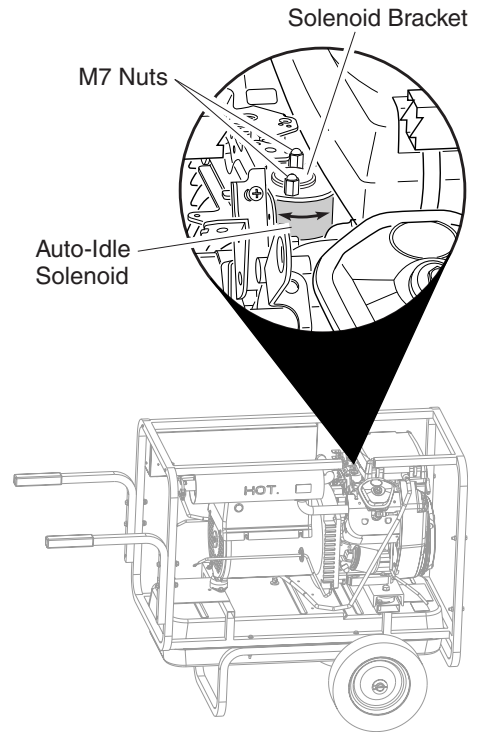

Figure 20 - Solenoid Bracket Location (MGH10000C Shown)
2. Locate Auto-Idle solenoid. The Auto-Idle solenoid is located between the alternator and the engine when viewed from the top of the generator (see Figure 20).
4. Rotate solenoid (located under the solenoid bracket) left or right to adjust Auto-Idle speed (see Figure 20).
6. After reaching proper idle speed, tighten M7 nuts to secure solenoid to mounting bracket (see Figure 20).